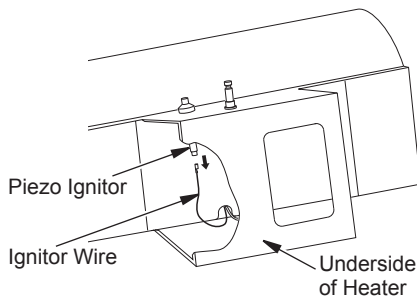

Figure 10 - Removing Ignitor Wire from Piezo Ignitor
2. Remove black ignitor wire from piezo ignitor. Access ignitor wire through underside of heater base (see Figure 10). Push wire up through notch in filler panel.